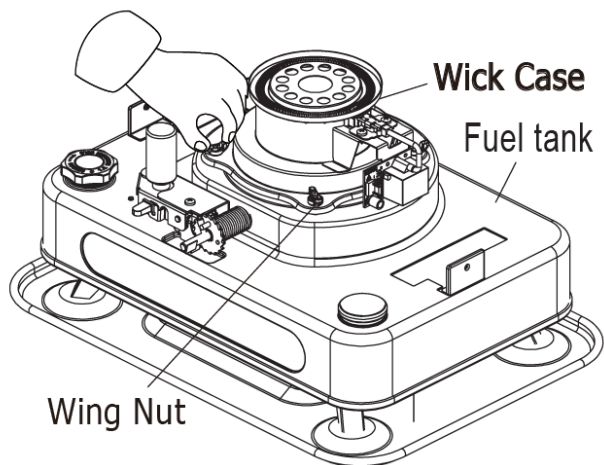

Fig. 21
10. Replace Wick Case to the Fuel Tank. (Fig.21)